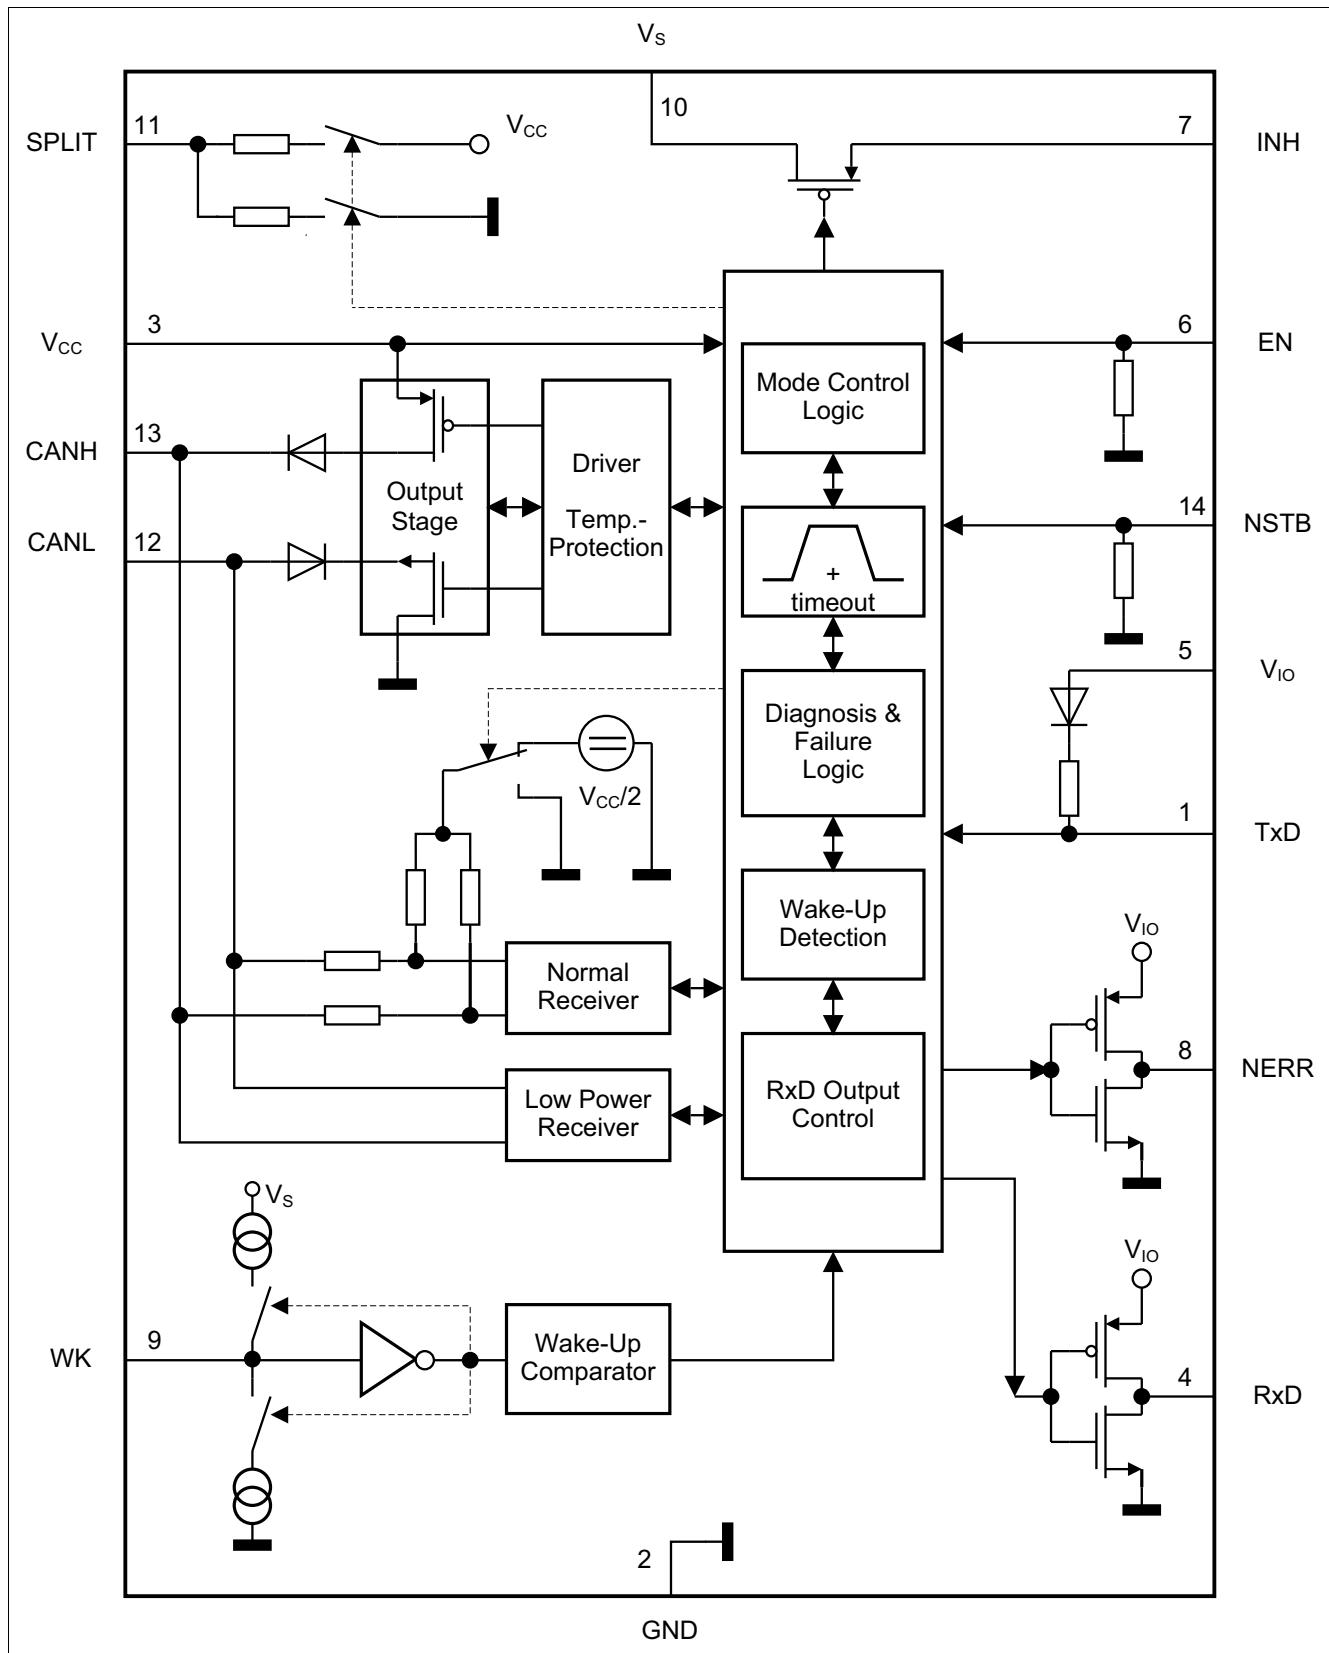
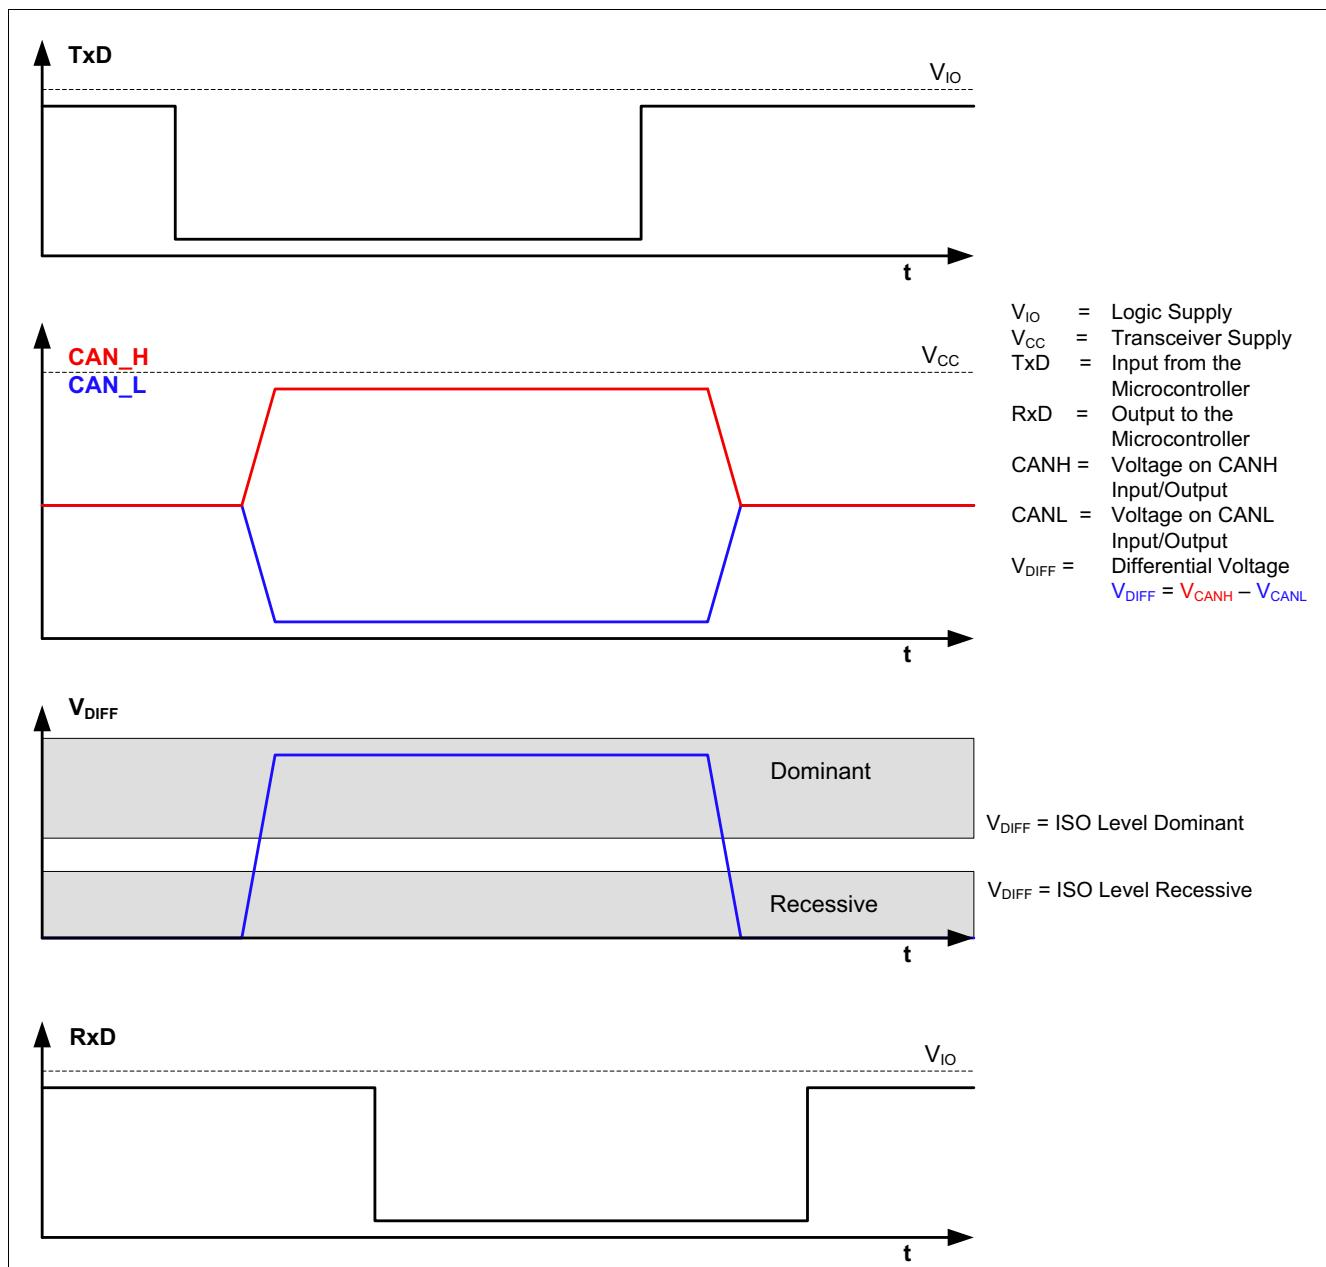

Figure 1 Block Diagram
Figure 3 High Speed CAN Bus Signals and Logic Signals
The TLE6251-2G is a High Speed CAN transceiver, operating as an interface between the CAN controller and the physical bus medium. A High Speed CAN network (abbreviated HS CAN) is a two wire differential network which allows data transmission rates up to 1 MBaud. Characteristic for a HS CAN network are the two CAN bus states “Dominant” and “Recessive” (see Figure 3).
The input TxD and the output RxD are connected to the microcontroller of the ECU. As shown in Figure 1, the HS CAN transceiver TLE6251-2G has a receive unit and a output stage, allowing the transceiver to send data to the bus medium and monitor the data from the bus medium at the same time. The HS CAN TLE6251-2G converts the serial data stream available on the transmit data input TxD into a differential output signal on CAN bus. The differential output signal is provided by the pins CANH and CANL. The receiver stage of the TLE6251-2G monitors the data on the CAN bus and converts them to a serial data stream on the RxD pin. A logical “Low” signal on the TxD pin creates a “Dominant” signal on the CAN bus, followed by a logical “Low” signal on the RxD pin (see Figure 3). The feature, broadcasting data to the CAN bus and listening to the data traffic on the CAN bus simultaneous is essential to support the bit to bit arbitration on CAN networks.
- Through the internal resistors R_I (see Figure 1), the pins CANH and CANL are connected to GND.